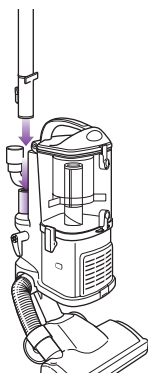

Fig. 9
- 3 Attach the end of the extension wand to the tube on the back of the detachable canister until it clicks into place. (Fig. 9)